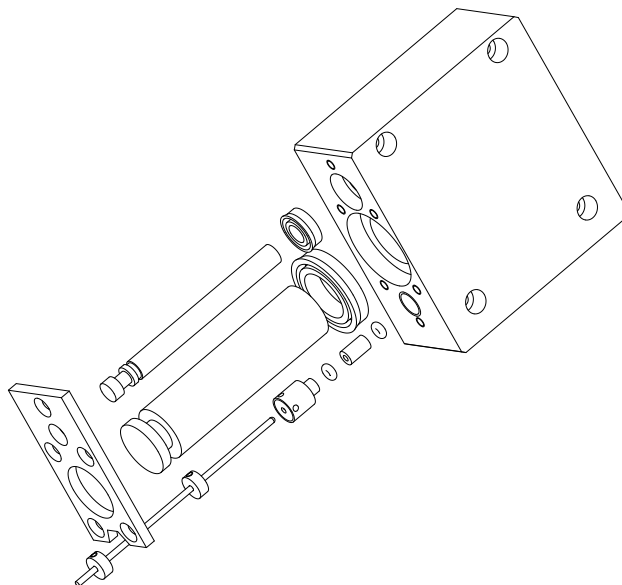

Figure 10-5
- a) The sample volume is not accurate, please break up the sample piston and o ring seals from the dilutor, change it o ring seals, re-assemble it again, shown as figure10-5.